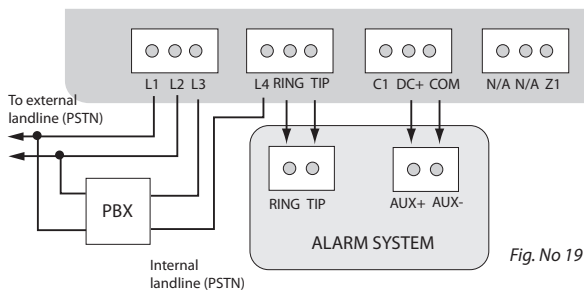

Fig. No 19
1. Connect the circuit as indicated in Fig. No. 19 – connect telephone contacts of the alarm system RING/TIP to RING/TIP contacts of communicator.